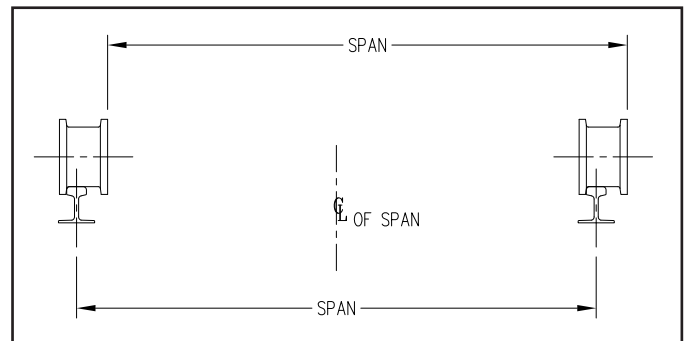

Figure 7. Checking Wheels
3. To check the distance between the trucks, push all truck wheels in one direction. The distance from the outside of the wheel on one side of the span to the inside of the wheel on the other side of the span should equal the span length, see figure 7. The tolerance on this distance is $\pm 1/32"$.